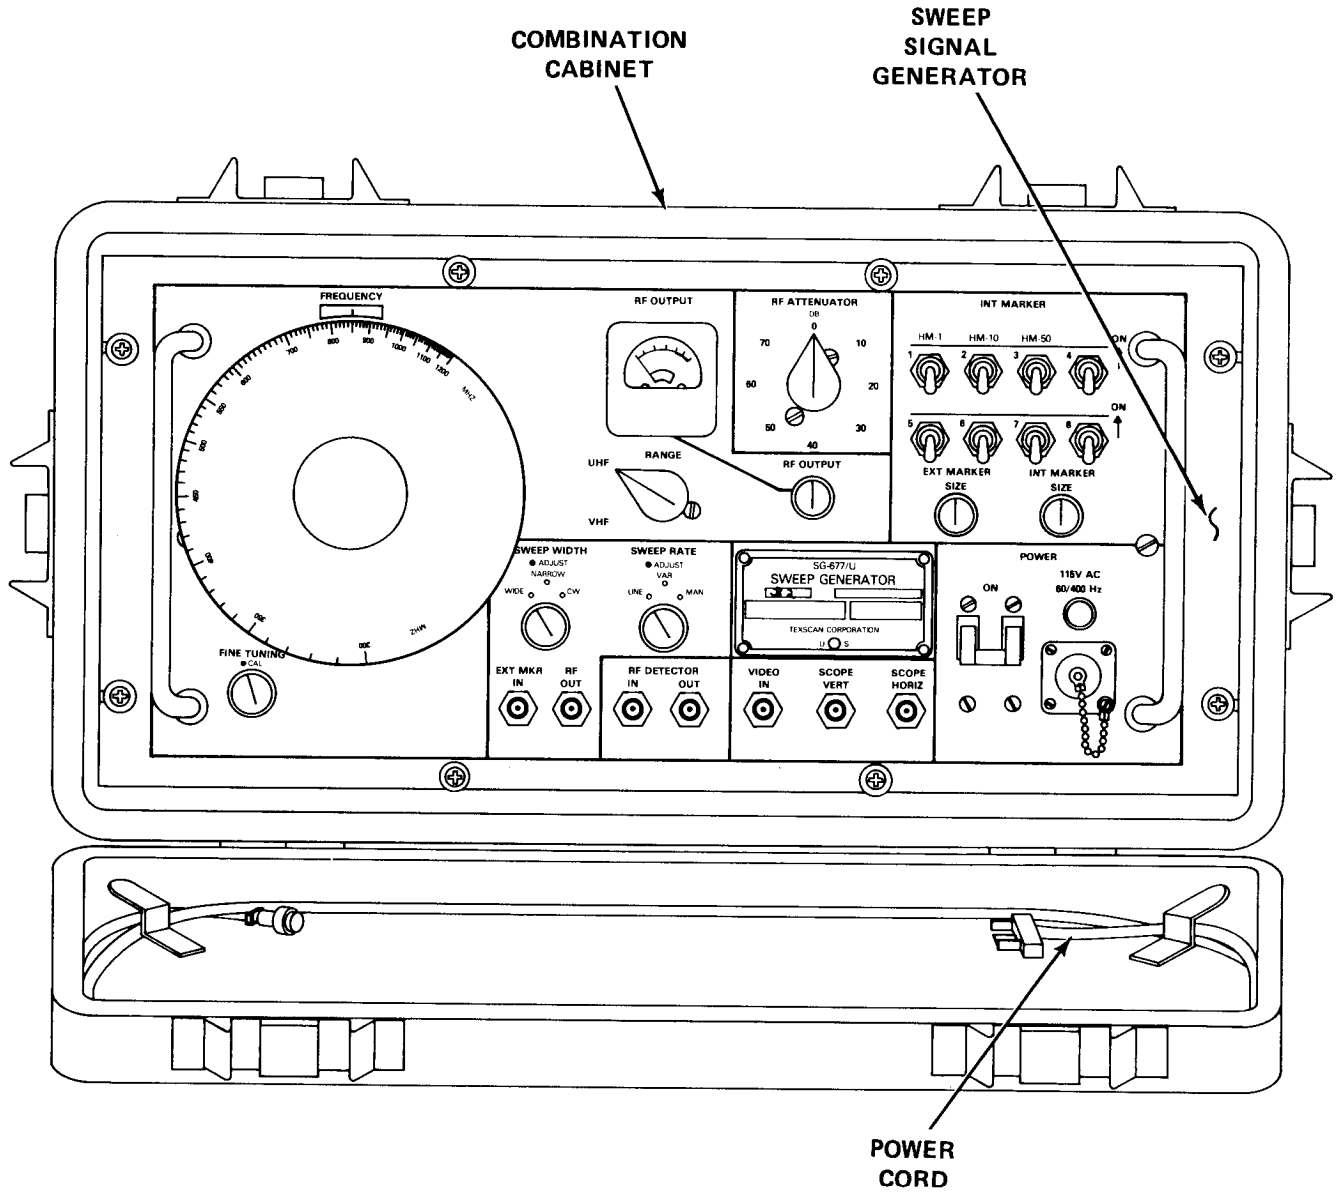

Figure 1-1. Sweep Signal Generator SG-677/U
1-1 SCOPE. This manual provides organizational, direct support, and general support instructions for the installation and maintenance of Sweep Signal Generator SG-677/U (figure 1-1). A repair parts and special tools list is also included.
a. The sweep generator (figure 1-1) is a solid state electronic sweep generator used to test and/or align complex electronic circuitry. It provides a radio frequency (RF) output signal of 500 kHz to 1200 MHz, which may be used as a continuous wave (CW) source, swept manually or automatically. The sweep generator is enclosed in a combination utility/transit cabinet for normal service use but, if desired, may be removed from its cabinet and mounted in a standard rack-and-panel configuration. The internal power cord connecting the front and rear connectors is shielded to prevent RF radiation into the power line. RF shields are installed around the front opening of the case, under the high-band oscillator covers and the video amplifier cover, to reduce RF interference. The cabinet is equipped with guide rails and locating pins to facilitate installation of the generator. Slip hinges allow the cabinet cover to be easily removed. Provisions are made for storing the power cord with the cabinet cover.